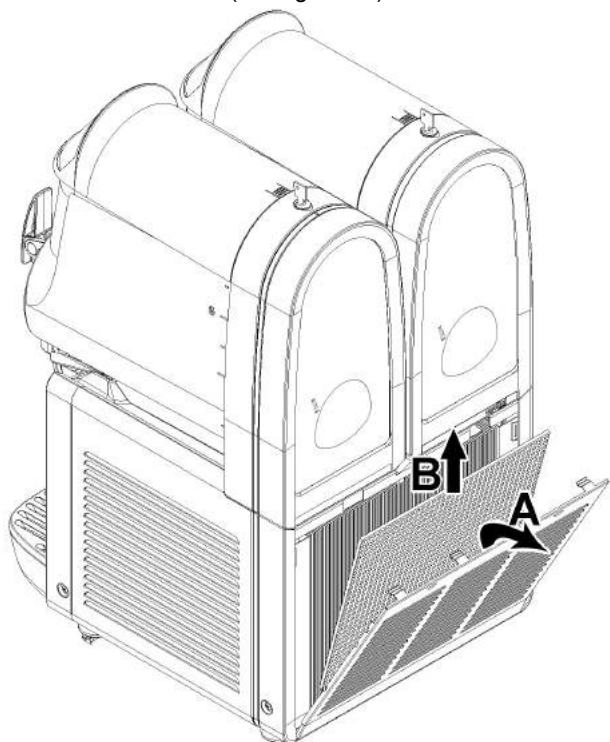

figure 24
**2 Every month:** remove the dust from the condenser filter on the back of the machine (see figure 24).